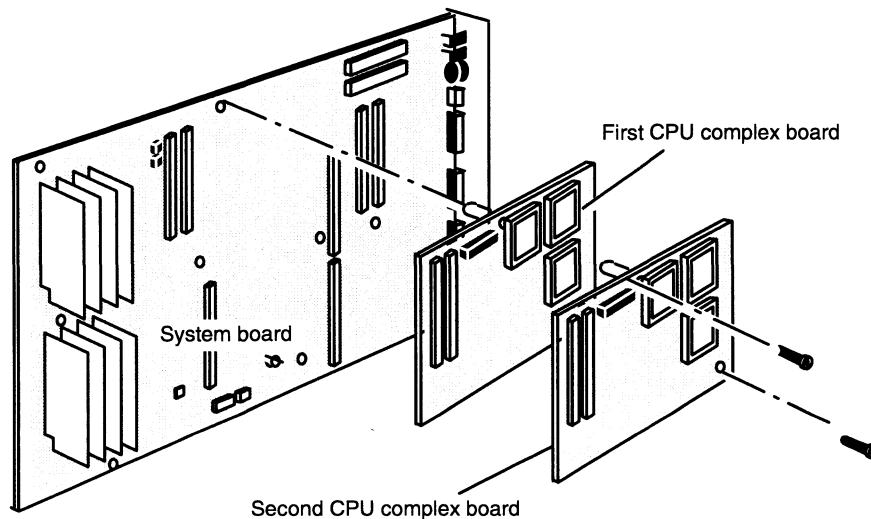

Figure 9-4 Removing the CPU Complex Board Screws
1. Remove the two screws, shown in Figure 9-4, that secure the CPU board(s) to the system board.